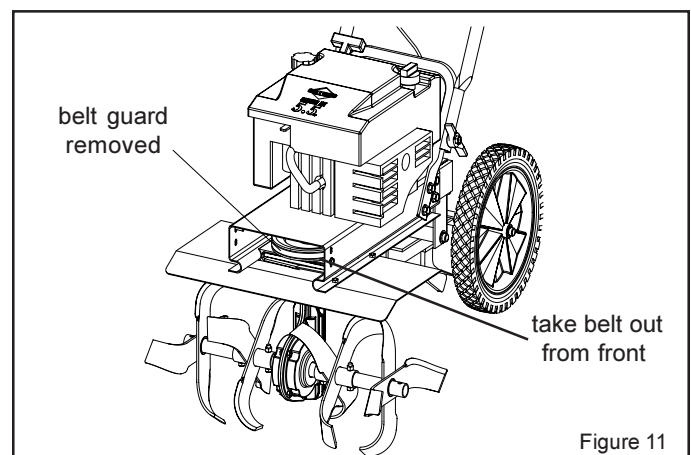

Figure 11
3. Remove belt guard. (Fig. 11)